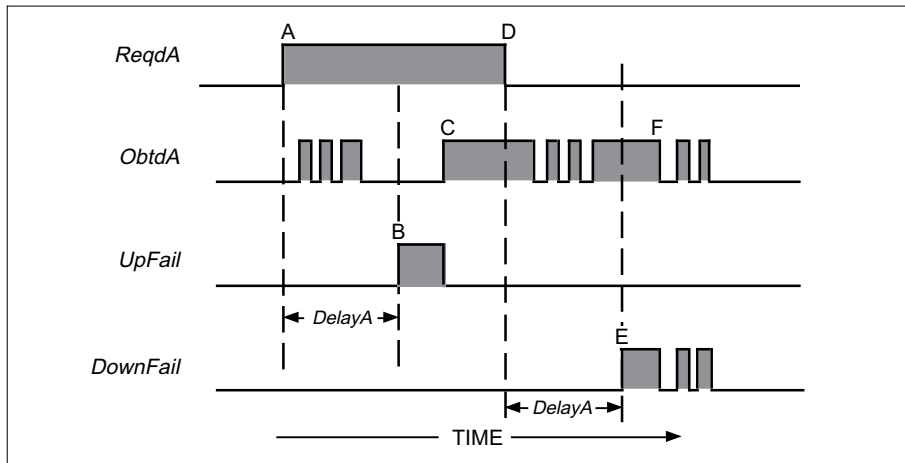

Figure 3 Action of the UpFail & DownFail outputs- Channel A
NOTE. In *Figure 3*, [*>DelayA*] signifies 'time specified by *DelayA* exceeded' which can be TRUE or FALSE.
- **UpFail.** TRUE when 'Reqd' is TRUE but 'Obtd' remains FALSE for longer than the time allowed by 'Delay'. See *Figure 3*.
Figure 3 shows how *UpFail* and *DownFail* work. In the Figure, *ReqdA* goes high at time A, starting the *DelayA* timer. *ObtdA* attempts to follow but does not succeed until time C, after some bouncing and beyond the allowed delay. *UpFail* sets at B, the end of the delay time, but resets at time C, because *ObtdA* has now switched on. At D *ReqdA* resets, but *ObtdA* is still high at the end of the newly triggered delay time so *DownFail* sets at E. *ObtdA* resets to the desired state at F and then bounces, causing *DownFail* to copy the failure pattern.
- **Break.** Break sets TRUE if 'Obtd', having equalled 'Reqd' (since 'Reqd' last switched), subsequently changes state. To prevent bouncing contacts triggering an unwanted *Break*, this output is not asserted until the time specified by 'Delay' has elapsed after 'Reqd' last changed state. *Figure 3* shows how *Break* works.
In *Figure 3*, *ReqdA* goes high at time A, starting the *DelayA* timer. *ObtdA* attempts to follow *ReqdA* and succeeds by time B, after some bouncing. *Break* is not set because B is within the delay time specified. However, *ObtdA* later fails between times C and D, setting *Break* for that period. Note that *Break* is non-latching. At E *ReqdA* resets, but *ObtdA*, despite temporarily resetting by time F, fails again and is left high. So *Break* sets at time G, the end of the newly triggered delay period.